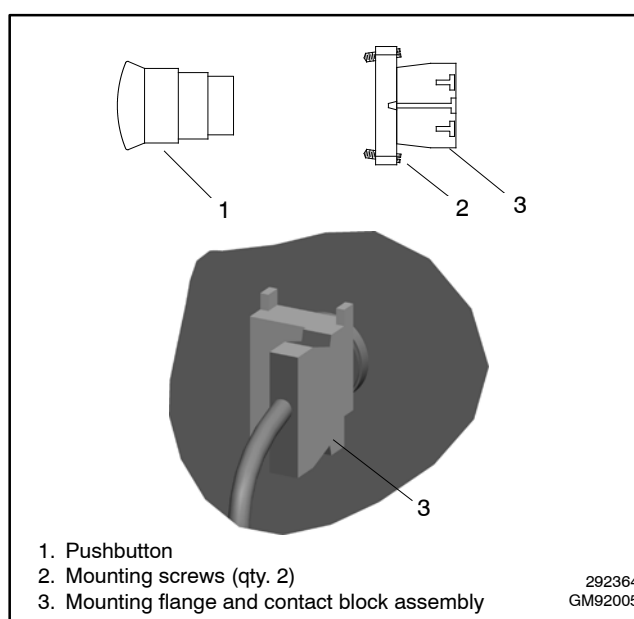

**Figure 4** Decal Placement
8. Apply the bright yellow Emergency Stop decal GB31311173101 to the outside of the enclosure. Center the decal on the opening for the switch. See Figure 4.